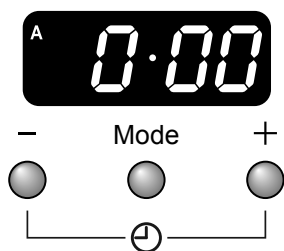
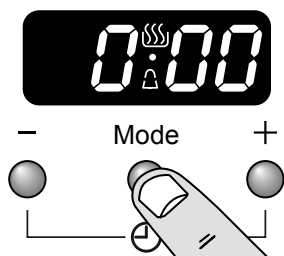

Fig. 2.16
Fig. 2.17
1. Press the mode [Mode] button once (Fig. 2.16). The bell symbol [🔔] will flash on the display. Select the desired countdown from 00:01h to 23:59h using the [+] or [-] buttons (Fig. 2.17). The countdown will automatically begin and the [🔔] symbol will show in the display.